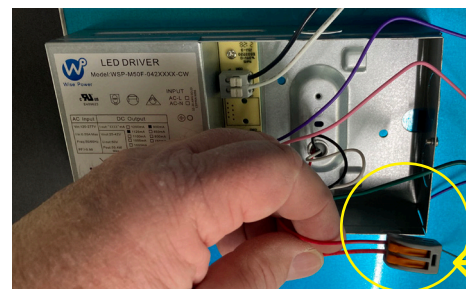

Figure 2
- Step 2. Connect Red wire from Step 1 (power supply) to Red/White wire of Battery Backup (Figure 2)